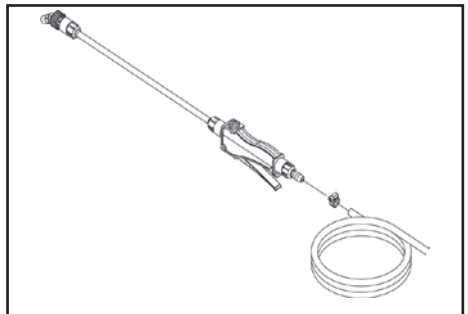

FIG. 7
9.5 ATTACH GUN HOSE TO SPRAY GUN – FIG. 7